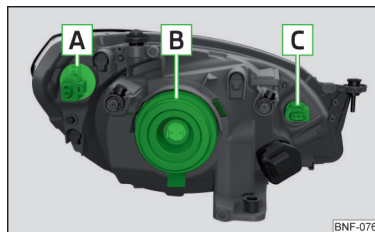
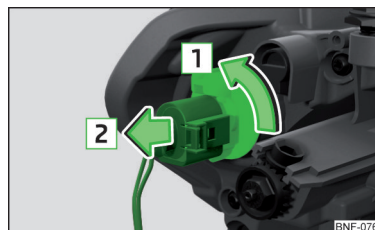

Fig. 140
Fig. 143
Bulb arrangement » Fig. 140
- Turn the housing containing the bulb **C** » Fig. 140 on page 138 as far as the stop in the direction of the arrow **1** » Fig. 142.
- Turn the housing containing the bulb **A** » Fig. 140 on page 138 as far as the stop in the direction of the arrow **1** » Fig. 143.